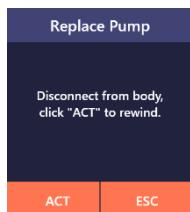

Figure A.9.1
(1) Disconnect from body, click "ACT" to rewind the push rod then the user can continue to replace the pump, or click "ESC" to return to the "More" interface (as shown in Figure A.9.1).